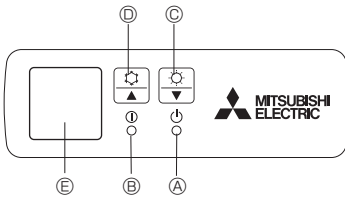

Fig. 5-1
- [Fig. 5-1] A DEFROST/STAND BY lamp